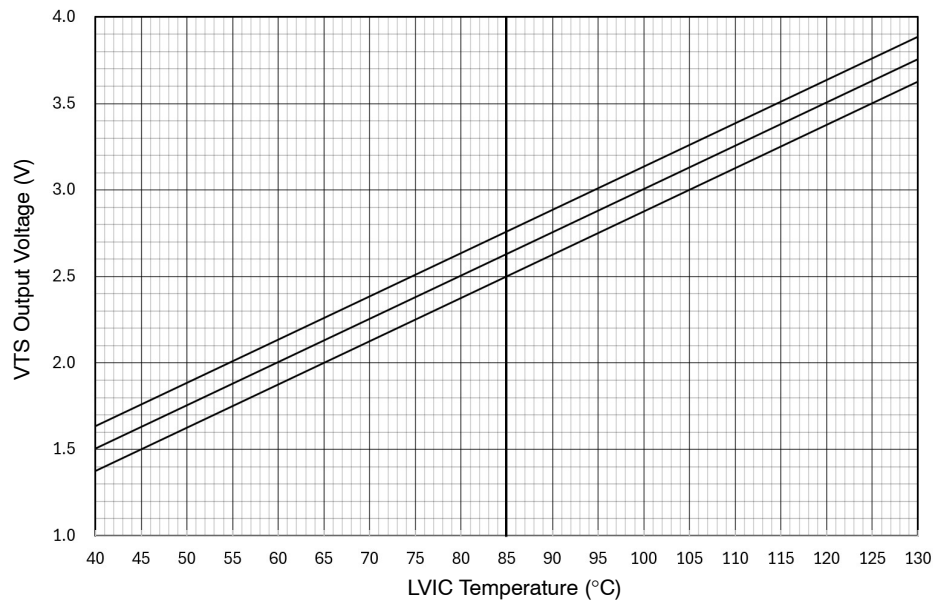
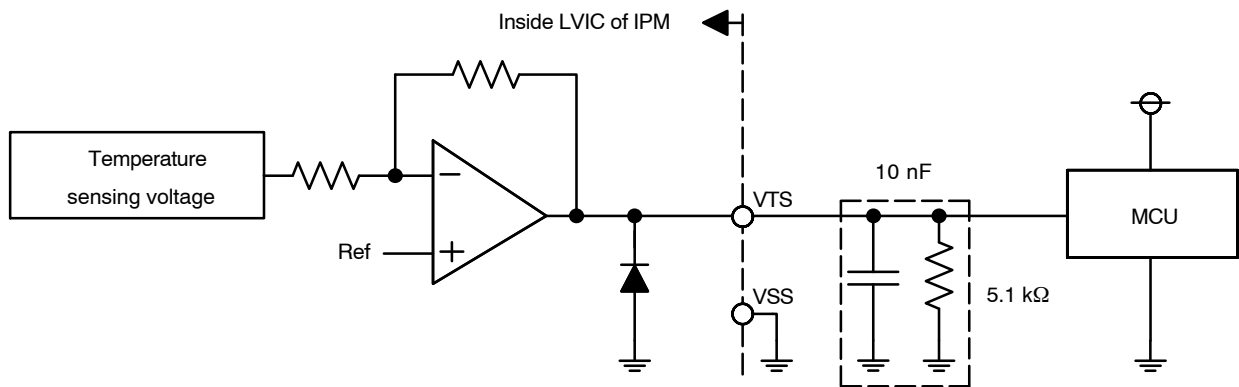

Figure 5. Temperature of LVIC versus VTS Characteristics
Figure 6. Internal Block Diagram and Interface Circuit of VTS
- TLVIC is the temperature of LVIC itself. VTS is only for sensing temperature of LVIC and cannot shutdown MOSFETs automatically. The relationship between VTS voltage output and LVIC temperature is described in Figure 5. It is recommended to add 5.1k Ω pull down resistor between VTS and VSS (Signal Ground) as described in Figure 6 for linear output characteristics at low temperature. To reduce noise, 10 nF cap is recommended as well. Refer to the application note for usage of VTS.
To avoid malfunction, the wiring of each input should be as short as possible (less than 2~3 cm). Each capacitor should be mounted as close to the pins of the product as possible. VFO output is open-drain type. This signal line should be pulled up to the positive side of the MCU or control power supply with a resistor that makes IFO up to 1 mA. Please refer to Figure 6.